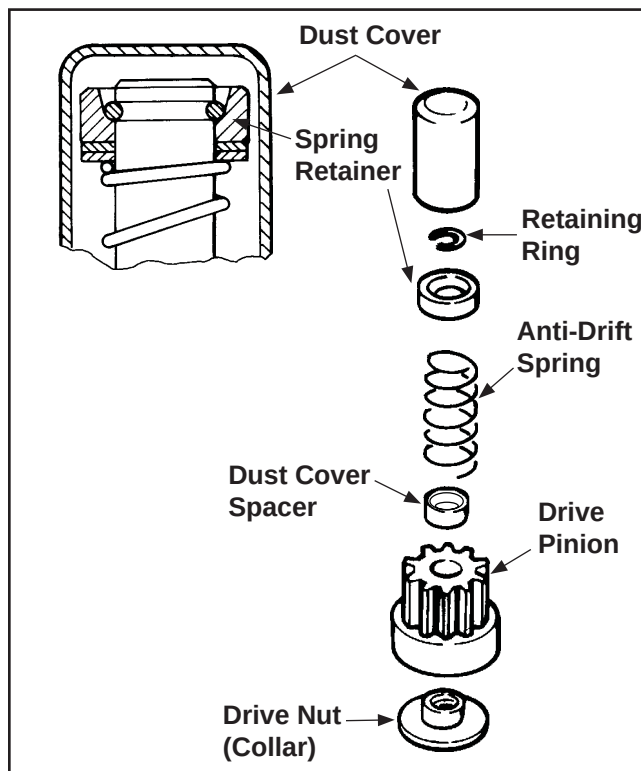

Figure 7-29. Drive Components, Inertia Drive Starter.
1. The rubber dust cover has a molded lip on the inside that snaps over a lip on the front of the drive pinion. See Figure 7-29. Turn the drive pinion clockwise until it reaches the fully extended position. While holding it in the extended position, grasp the tip of the dust cover with a pliers or vise grip and pull it free from the pinion.
2. Grasp the spring retainer with a pliers and push it toward the starter, compressing the anti-drift spring to expose the retaining ring. See Figure 7-29.